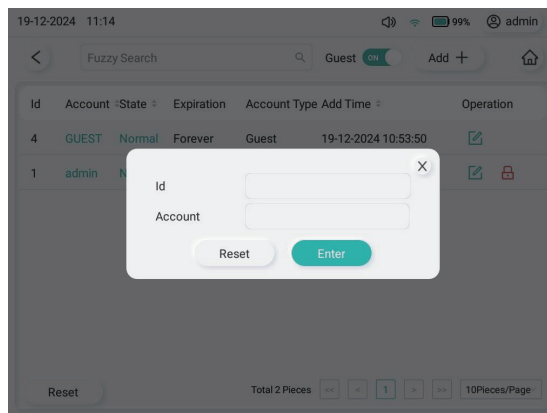

Figure 5-8 Search for another user's information
- 1) Click on  and then the input box will appear. (Figure 5-8)